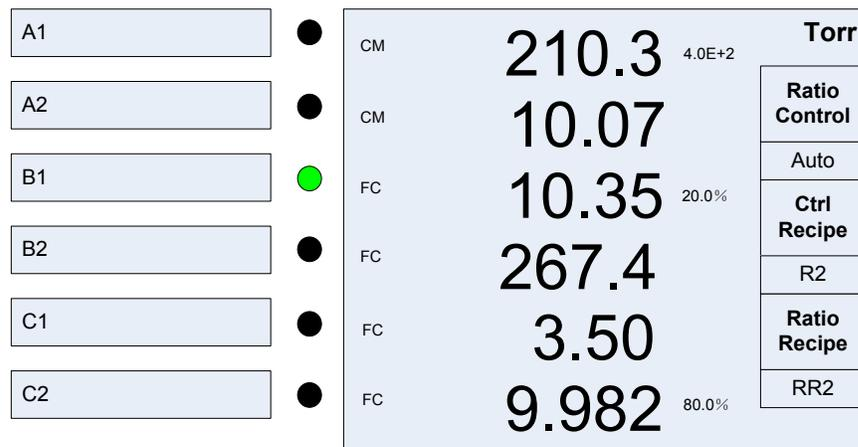

Figure 6-21 Display with the Dialog Box for Ratio Control using Multiple MFCs
- Press the Pressure Control  key until Ratio Control dialog box is displayed as shown in Figure 6-21.
When a valid ratio PID control recipe is selected, the pressure set point (P Sp in Figure 6-19) will be displayed on the front panel (4.0E+2 in the example of Figure 6-21) to indicate the sensor being used for pressure control, and assist in the comparison of the real pressure reading and the set point value.
- Select the desired ratio recipe. Once selected, the corresponding gas concentrations (such as 20.0% for B1, and 80.0% for C2 as shown in Figure 6-21) associated with the ratio control channel will be displayed, providing indication of the active ratio channels and ratio settings.
Both the PID and Ratio recipes (such as R2 and RR2 shown in Figure 6-21) cannot be changed when either Auto or Manual ratio control is running.
To terminate a PID ratio control using multiple MFCs, switch either Manual or Auto ratio control to OFF via the dialog box for **Ratio Control** as shown in Figure 6-21.